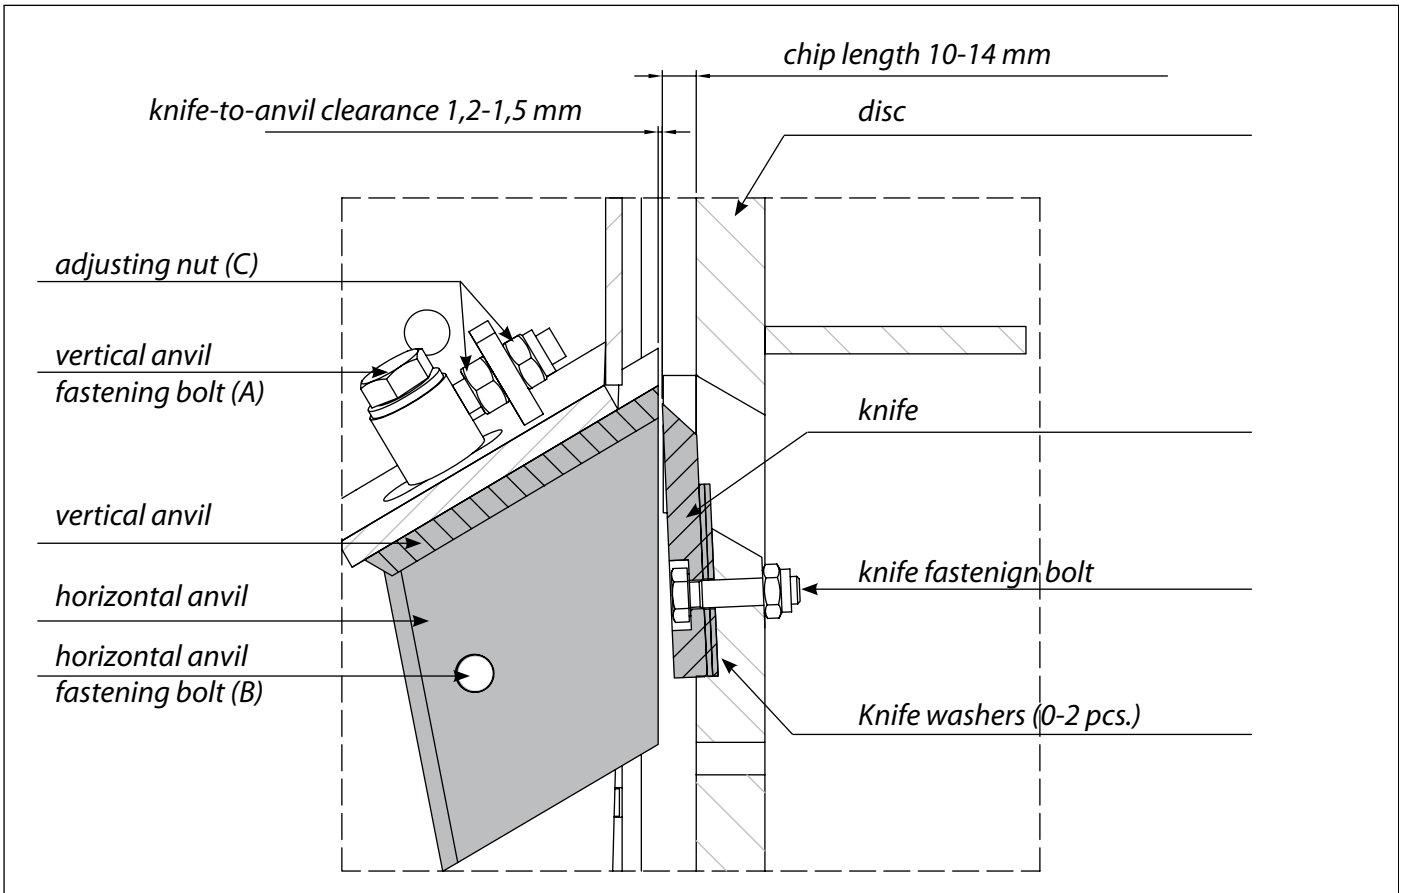

Fig. 19. Cross-section of the disk and knives / anvils
1. Loosen the M16 locking screws (A) and (B) of the anvils. See fig 19.
2. Turn the cutting disk in such a way that the front edge of the knife is exactly opposite the vertical anvil. Slide a feeler gauge between the knives. Adjust the play of the vertical anvil by the M12 adjusting nuts (C) to 1.2-1.5 mm (0.05-0.06").
3. Tighten the adjusting nuts (C) and the locking screws of the anvil (A).
5. Tighten the locking screw (B).